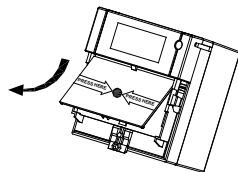

Fig. 4: Operating element
2. Remove the operating element (see Fig.4).